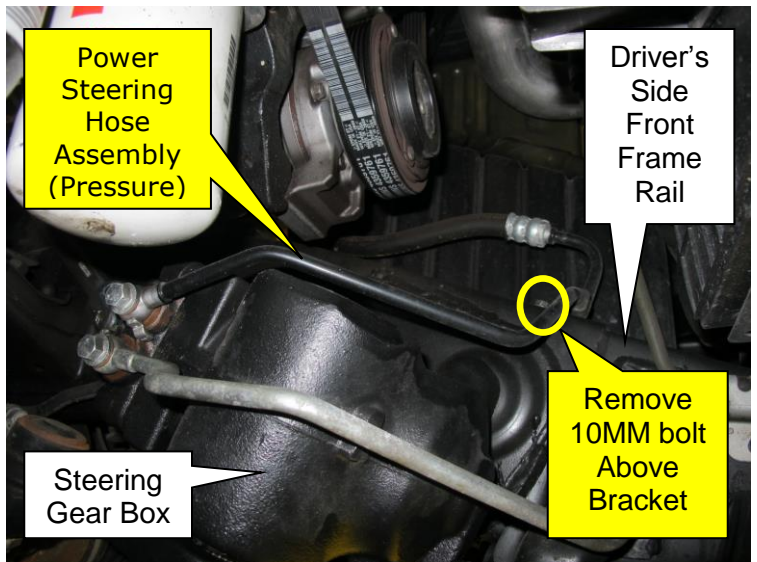

Figure 5
4. Remove Power Steering Hose Assembly (Pressure) bracket bolt (Figure 5).